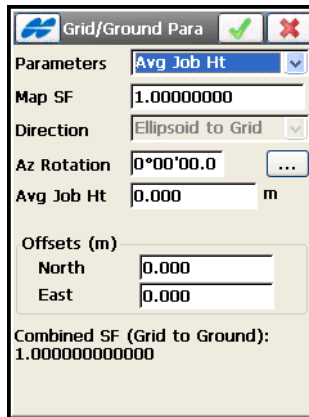

Figure 4-95. Grid to Ground - Average Job Height
3. In *Average Job Height* mode, set the following parameters (see Figure 4-95 on page 4-75):